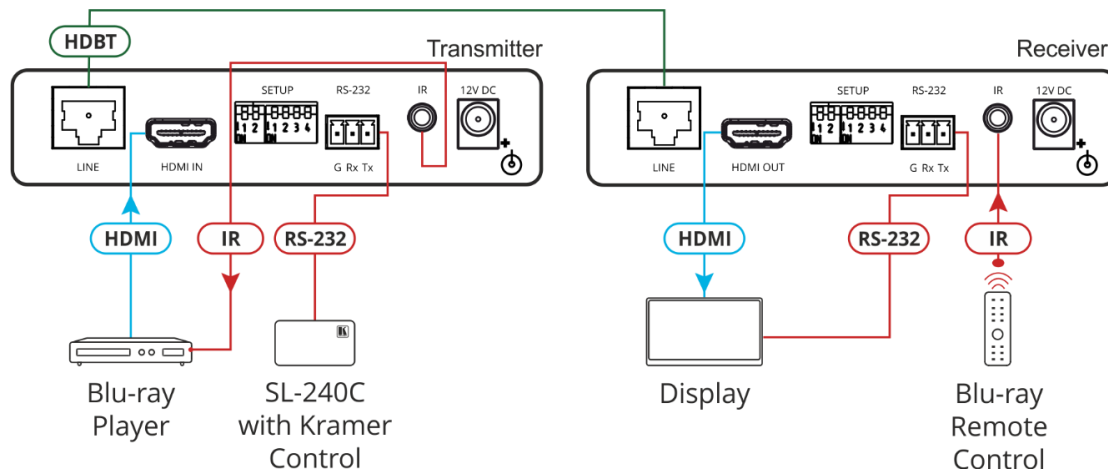

Figure 3: Connecting the extenders
To connect the TP-583Txr and TP-583Rrx as illustrated in the example in Figure 3:
1. On TP-583Txr connect an HDMI source (for example, a Blu-ray player) to the HDMI IN connector (6).
2. On TP-583Rrx connect the HDMI OUT connector (16) to an HDMI acceptor (for example, a display).
3. Connect the LINE RJ-45 (5) connector on TP-583Txr to the LINE RJ-45 connector on TP-583Rrx (15).
- On TP-583Txr connect a controller (for example, SL-240C room controller) to the RS-232 3-pin terminal block connector (8).
- On TP-583Rrx connect the RS-232 3-pin terminal block connector (18) to the RS-232 control port on the display.
- On TP-583Txr connect the IR 3.5mm mini jack (9) to an IR emitter cable and connect it to the Blu-ray IR sensor.
- On TP-583Rrx connect the IR 3.5mm mini jack (19) to an IR sensor (receiver) cable.
6. Connect the power adapters to both extenders and to the mains electricity (not shown in Figure 3).